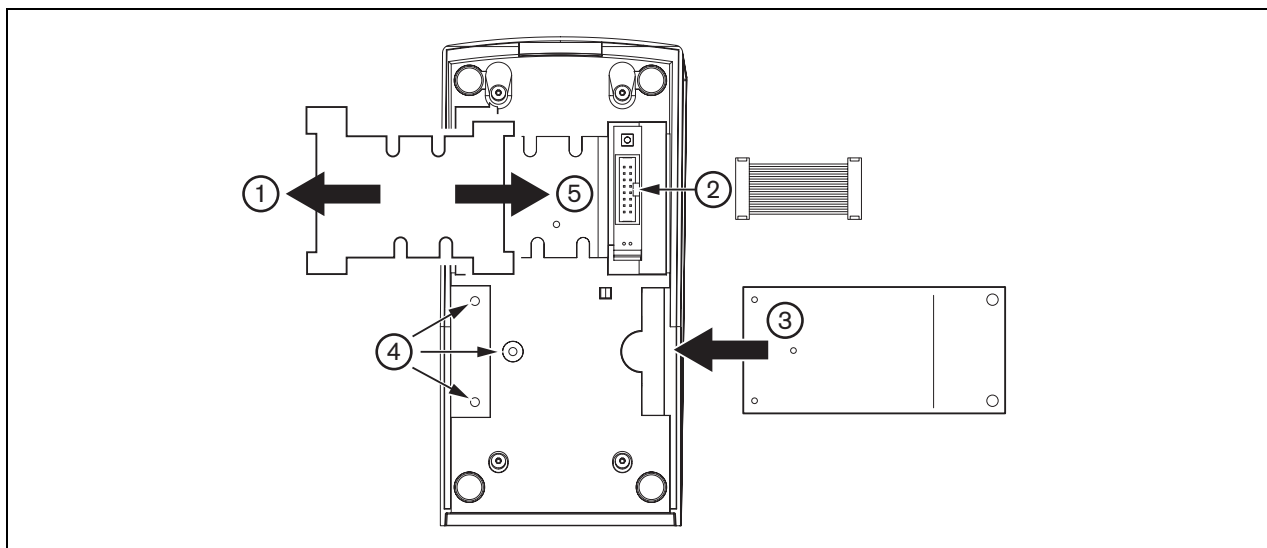

figure 14.5: Installation
- 1 Remove the lid by sliding it to the left and snapping it out of the call station keypad (see figure 14.5).
- 2 Connect the flat cable to the keypad connector and assign the correct ID to the keypad (see section 14.3 and figure 14.5).
- 3 Slide the connecting plate into the bottom of the keypad (see figure 14.5).
- 4 Fasten the connection plate using three screws (see figure 14.5).
- 5 Put the lid back by sliding it to the right and snapping it into the call station keypad (see figure 14.5).